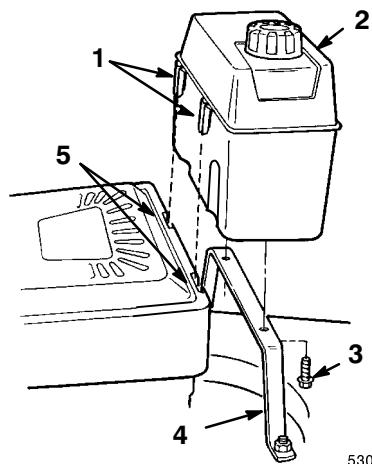

Figure 4
1. Start the two self-tapping screws into the bottom of the fuel tank and then remove the screws (Fig. 4).
2. Hook the plastic clips on the front of the fuel tank into the slots on the rear of the engine (Fig. 4).
3. Secure the fuel tank to the tank base with the two self-tapping screws (Fig. 4). *Do not overtighten the screws.*
1. Clean around the fuel tank cap (Fig. 4).